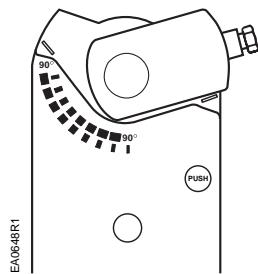

Figure 22.
- a. Insert the shaft adapter to the right as close as possible to the raised stop. See Figure 22.